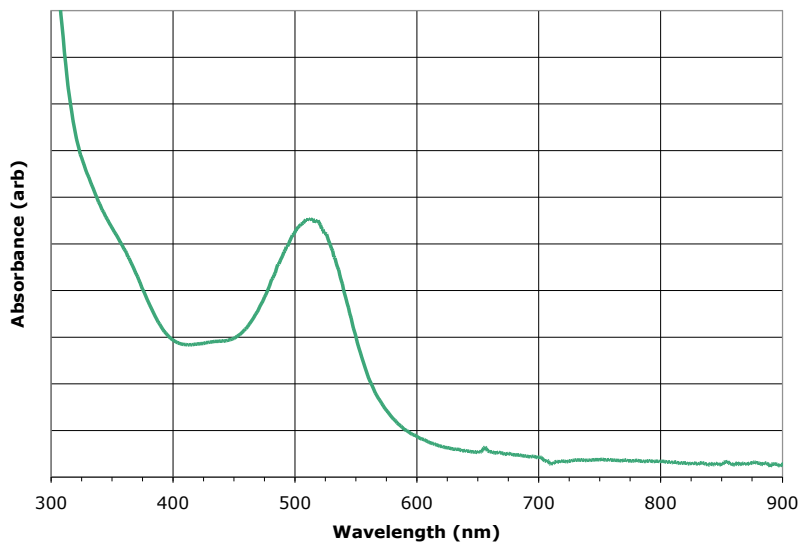

Figure 5. Absorption spectrum of blackberry juice.
- 3) What color sunlight does the cell most readily absorb (fig. 5)? How might other portions of the spectrum be utilized?